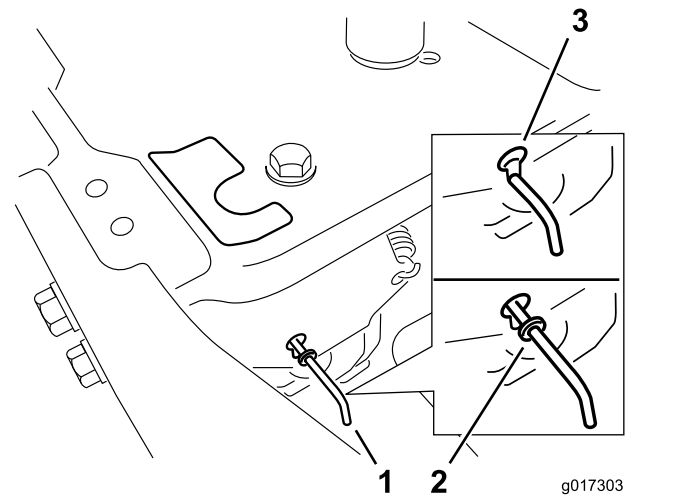

Figure 28
4. Move the bypass levers forward through the key hole and down to lock them in place (Figure 28).
Move the bypass levers rearward through the key hole and down to lock them in place as shown in Figure 28.